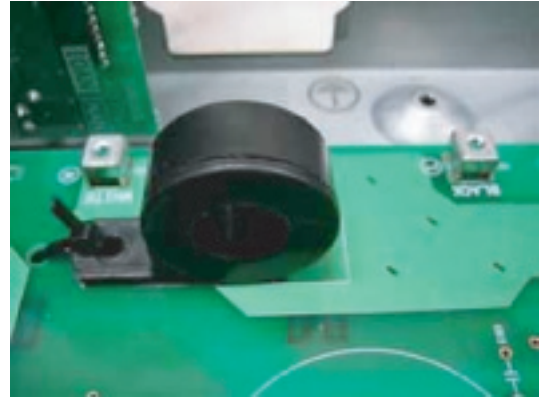

Fig. 11
- b) Set a ferrite-core at the specified area on the PSAN circuit board, and fasten the ferrite-core with the cord holder. (Fig. 11)